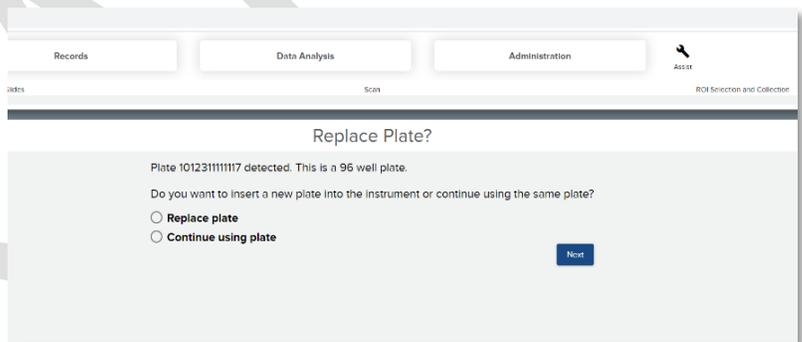

Figure 7: Replace Plate idle state
7. If the instrument still does not allow these actions, power cycle by shutting down through the software, reboot, start a new run, and pause at “Replace Plate?” screen (Figure 7). This is an idle state.